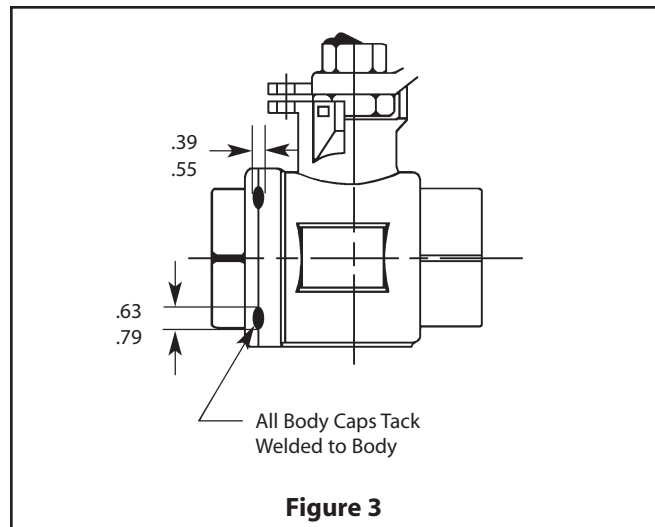

Figure 3
12. Tack weld the body cap to the body following the instructions in **(Figure 3 and Table 3)**. Tack welds must be equally spaced $\pm 10^\circ$. Weld not to exceed 1/8" (3.175 mm) depth of penetration.